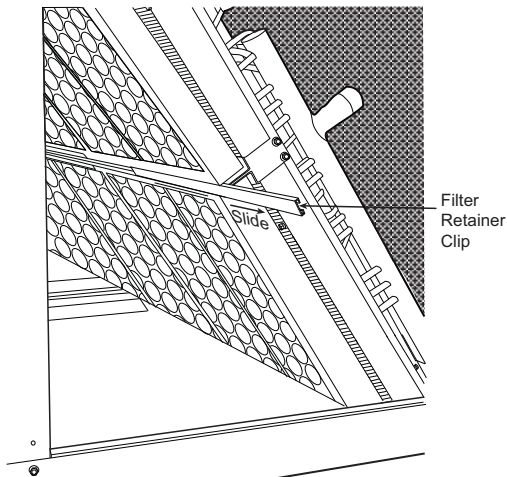

Fig. 74 — Remove Filter Retainer Clip
2. Remove the filter retainer clip (see Fig. 74).